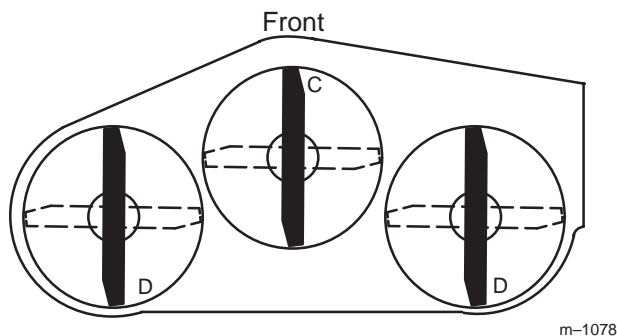
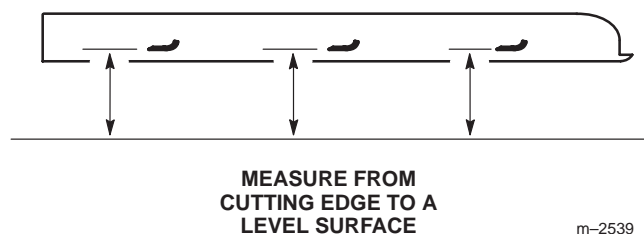

Figure 13
Figure 14
2. Position one blade front-to-rear (Fig. 13). Measure at **C** and either **D** location (Fig. 13) from a level surface to the cutting edge of the blade tips (Fig. 14).